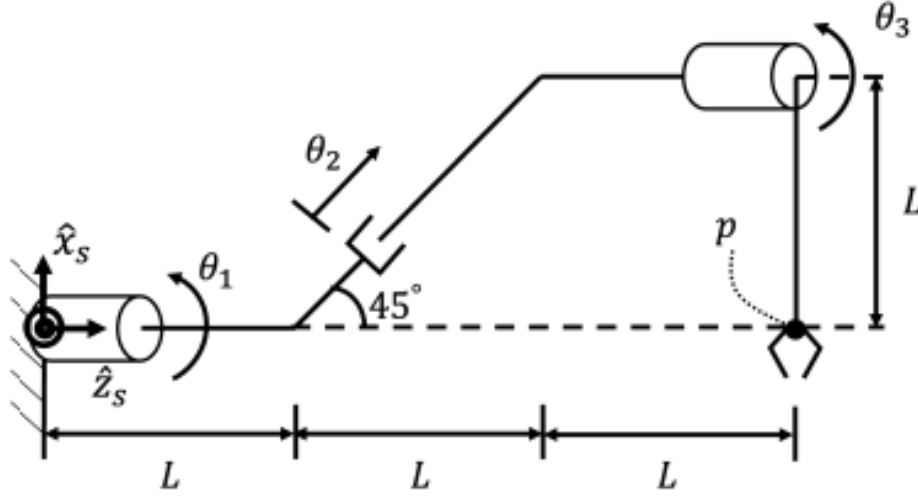

Figure 1: Figure 1: RPR robot in its zero position.
1. The RPR robot in Figure 1 is shown in its zero position, with the end-effector position  $p$  indicated by the black circle. The joint ranges for the robot are  $\theta_1 = [0, 2\pi)$ ,  $\theta_2 = [0, L\sqrt{2}]$ , and  $\theta_3 = [0, \pi]$ . Solve the inverse kinematics problem analytically and explicitly state all solutions for  $\theta_1$ ,  $\theta_2$ , and  $\theta_3$  given a desired end-effector position  $p = (p_x, p_y, p_z)^T$  specified in the robot's base frame  $s$ .